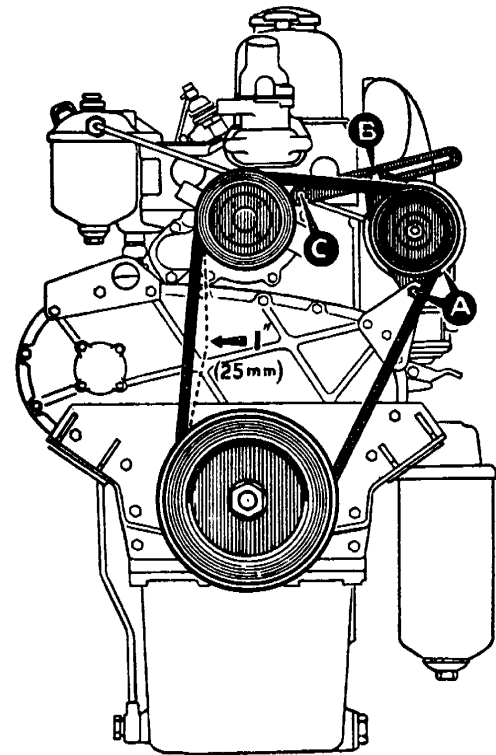

Fig. 5
a. Referring to Fig. 5, slacken the alternator securing bolt (A). Support the alternator with one hand and release the set bolt (B) and nut (C).